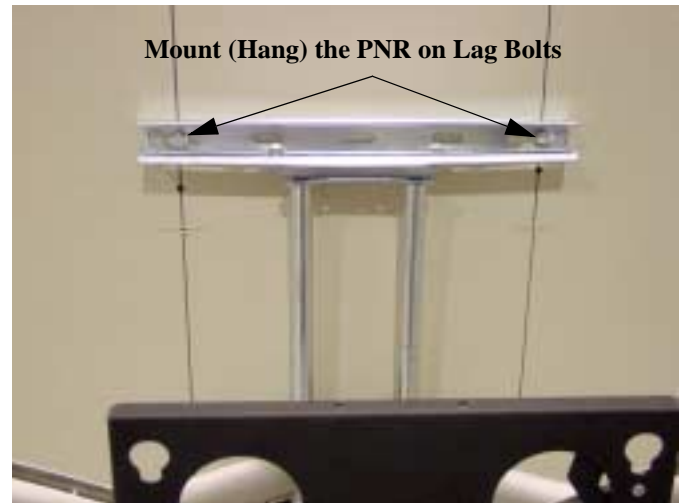

Figure 2. Mount PNR on Lag Bolts
- a. With an assistant, lift and hang the PNR on the two lag bolts and washers previously installed on the wall. See Figure 2.